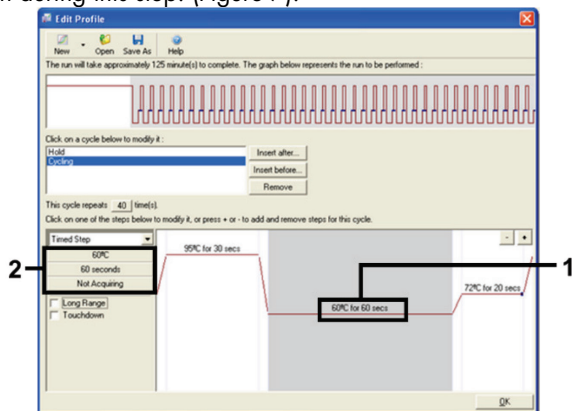

Figure 7. Cycling step at 60°C.
9. Highlight the second step and set to **60°C for 60 seconds**. Click **Not Acquiring** to enable data acquisition during this step. (Figure 7).